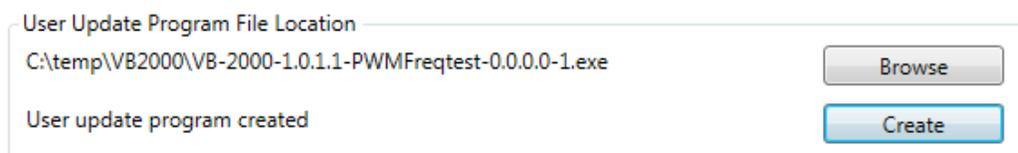

Figure 8
7. Click the **CREATE** button to create the User Ladder Update Program based on the selections you made in this program (window). A message will appear below the path when the program has been created. See Figure 8.